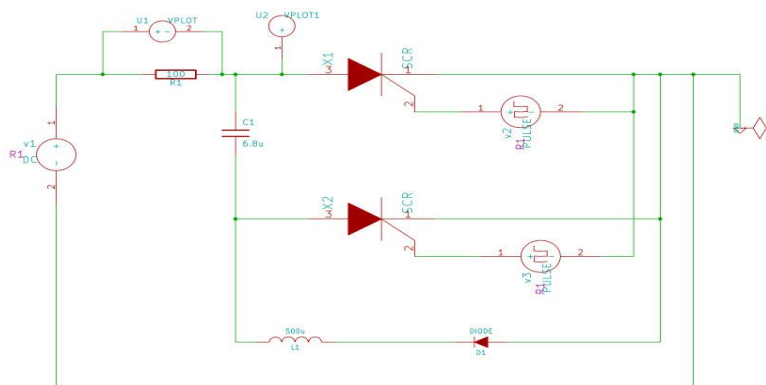

Fig. 3.1 FreeEDA schematic of voltage commutated chopper.
1. Create the schematic of the voltage commutated chopper as shown in Fig. 3.1.